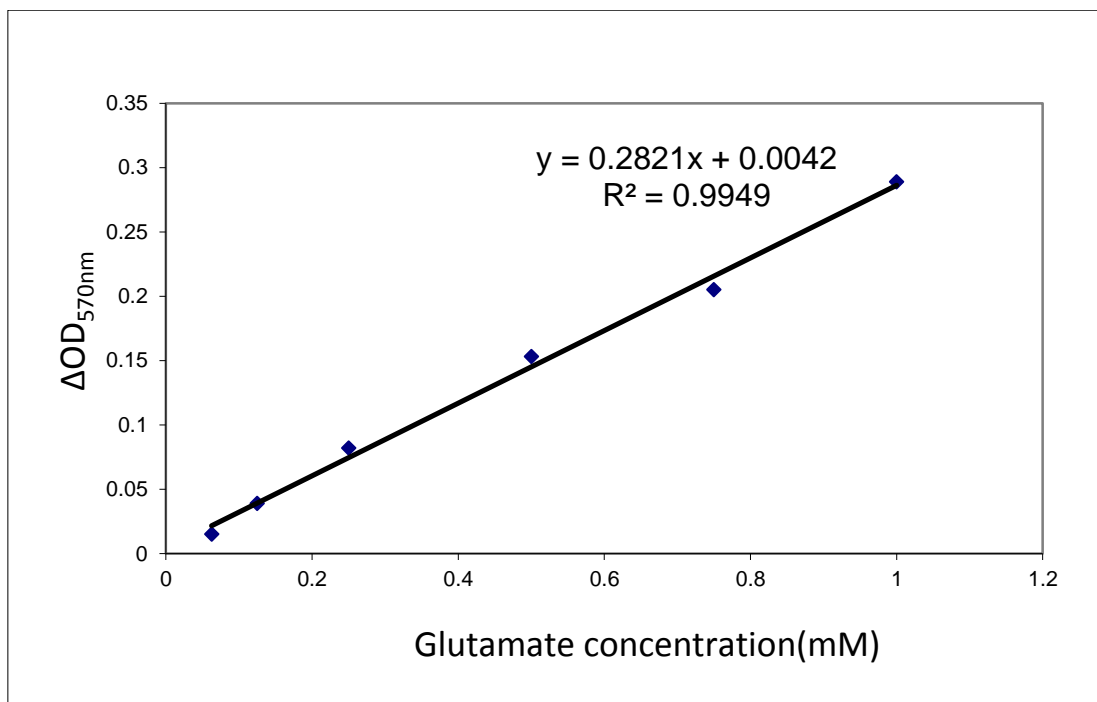

Figure1. A typical glutamate standard curve measured by ScienCell™ Glutamate Assay kit
Data from Glutamate Assay of glutamate solutions with concentrations ranging from 0.02 to 1 mM show a linear relationship between OD570nm and glutamate concentration (Figure 1).
2. Based on the calibrated ΔOD570nm of the glutamate standard, make a standard curve by plotting ΔOD570nm as a function of glutamate concentration (See Figure 1 for a typical standard curve). Determine the equation and R2 value of the trend line.